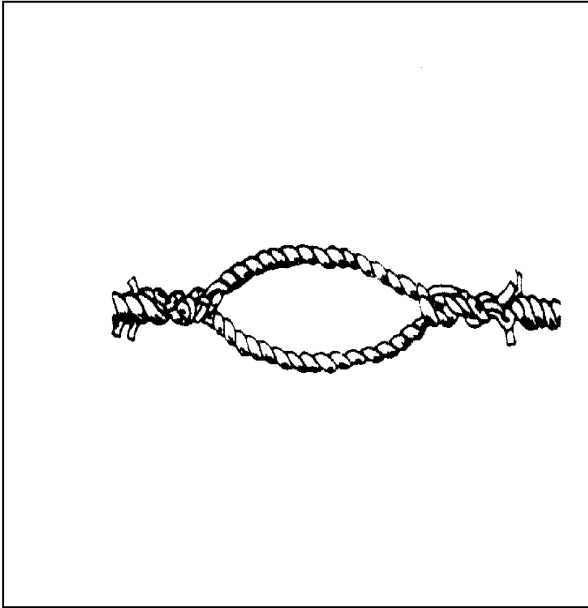

Figure 11-9. Cut splice
k. **Cut Splice.** A cut splice (Figure 11-9) is used to form an eye when two lines are joined. It is used on a double guy line. The pole spindle passes through the eye. The cut splice is formed by overlapping two lines, untwining the ends, and interweaving the strands.